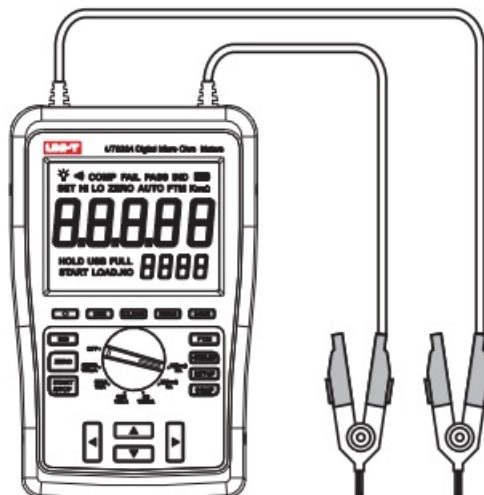

Figure 6
1. Connect Kelvin clips to T + and T- terminals and to the object under test (See Figure 6);